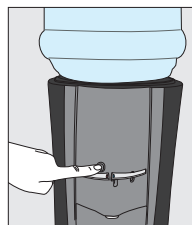
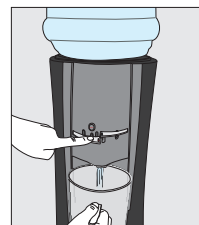

Figure 3
Figure 4
3. Vent the hot tank by holding the hot faucet open until water flows out(Figure 3 and Figure 4).